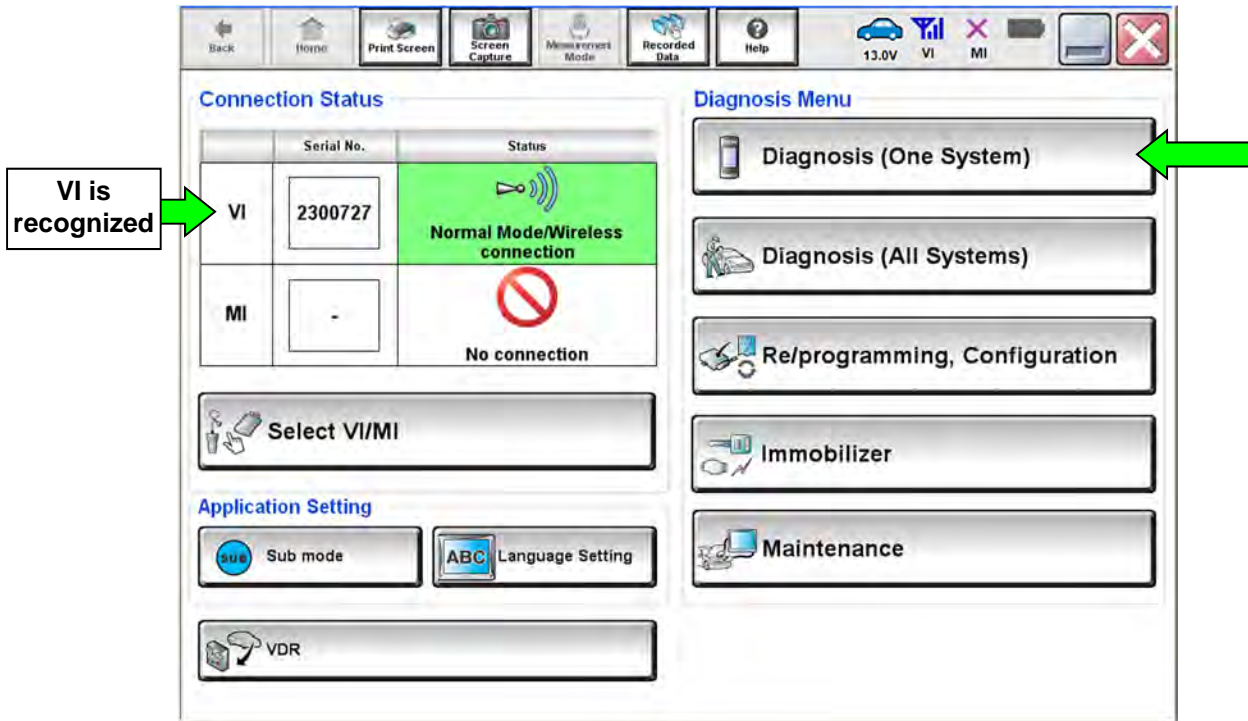

Figure 1
12. Wait for the VI to be recognized (Figure 1 on page 4).